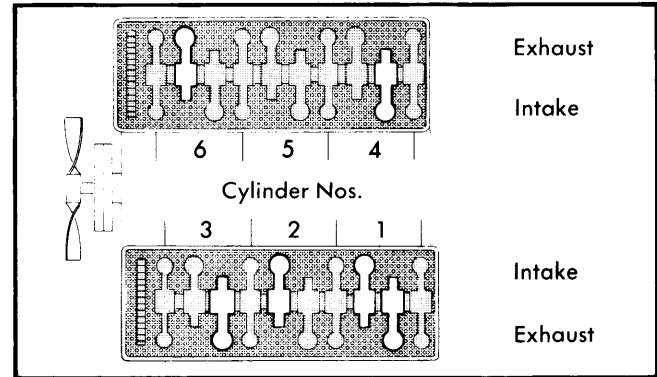

Fig. 6 Valve Clearance Adjustment Sequence
valves on cylinders 1, 2, and 4; exhaust valves on cylinders 1, 3, and 6 (White valves in Fig. 6).
2) Rotate crankshaft one full turn so marking is again opposite 0° mark. Rocker arms for No. 1 cylinder will now rock. Check and adjust the following cylinders for clearance: Intake valves on cylinders 3, 5, and 6; exhaust valves on cylinders 2, 4, and 5 (Grey valves in Fig. 6).